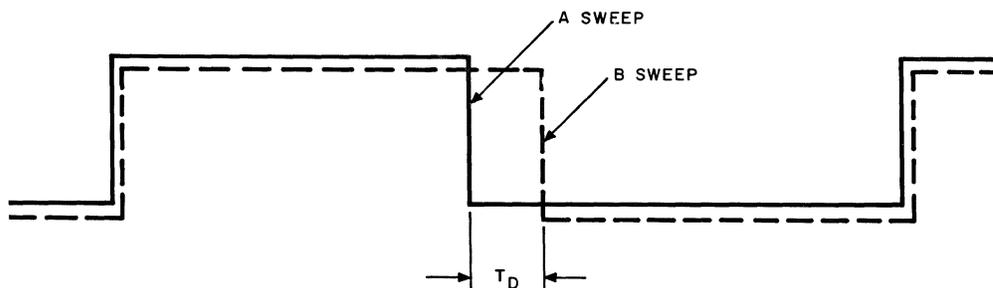
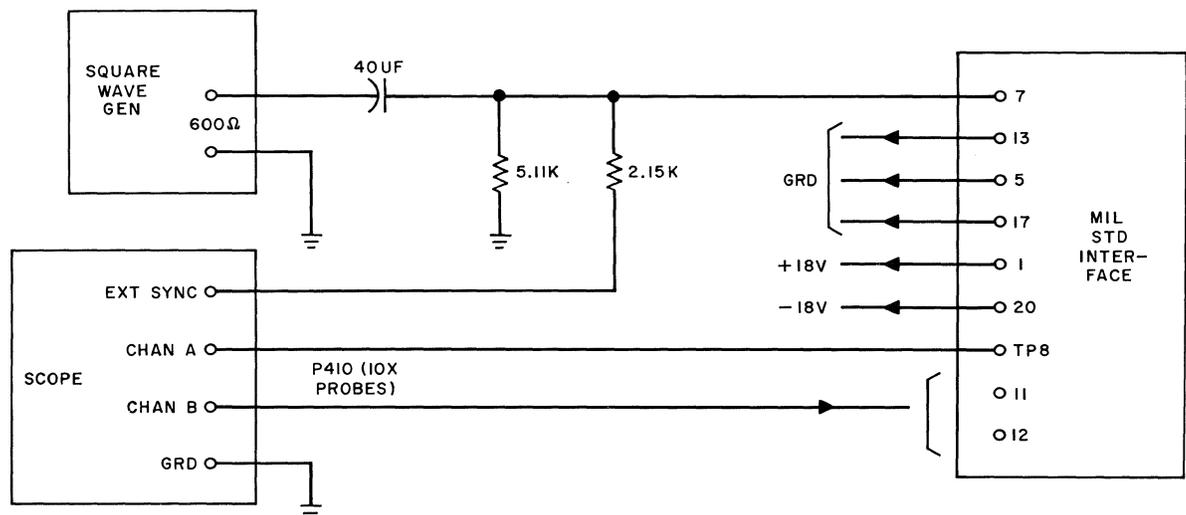

Fig. 52 — MIL. STD 188 Interface Test
Fig. 53 — MIL. STD 188 Interface Test
- (2) Set the controls on the oscillator so that the input sine wave to terminal 7 is about 1.5 volts rms with a period of 200 ( $\pm 10.0$ ) usec (5000 cps).
- (3) Make the following settings and connections on the scope.
- (4) Adjust the TIME BASE B STABILITY and TRIGGERING LEVEL controls to obtain a display of the waveform on test point 4. Overlay the CHAN A and CHAN B waveforms, as shown in Fig. 52, by adjusting the AMPLIFIER VERTICAL POSITION controls. The TRIGGERING LEVEL control should be set in a region where a slight counterclockwise or clockwise movement does not cause  $T_D$  to vary.
- (5) Adjust potentiometer R10 until the negative transition of the A sweep precedes the negative transition of the B sweep by approximately 20 usec.
- (6) Reduce the amplitude of input sine wave to 0.35 ( $\pm 0.01$ ) volt rms.
- (7) Rotate potentiometer R10 clockwise until the negative transition of the A sweep precedes the negative transition of the B sweep by approximately 4 usec (i.e.,  $T_D$  approximately 4 usec, see Fig. 52).
- (8) Set the HORIZONTAL DISPLAY selector to the B-INTENSIFIED-BY-A position. Set the TIME BASE A TIME/CM selector to 1 usec.
- (9) Adjust the delay time multiplier until the intensified portion of the sweep overlays the negative transitions of the displayed waveforms.
- (10) Rotate the HORIZONTAL DISPLAY selector to the A-DELAYED-BY-B position.
- (11) Rotate R10 clockwise until  $T_D$  is less than 0.5 usec. Because of backlash, it is important that the final setting be made in the clockwise direction. If  $T_D$  is made greater than 0.5 usec by excessive clockwise rotation of R10, back off in the counterclockwise direction until  $T_D$  is approximately equal to 10 usec, then reduce  $T_D$  to less 0.5 usec by rotating R10 in the clockwise direction.
- (12) Set the HORIZONTAL DISPLAY selector to the B position. Set the AMPLIFIER MODE switch to the A ONLY position. Reduce
- (1) Connect the card as in the suggested test circuit shown in Fig. 53.
- (2) Set the frequency of the square-wave generator to 5000 cps ( $\pm 5$  percent) with a duty cycle of 50 percent. Set the amplitude of the input pulse on terminal 7 (test point 8) to 12.0 ( $\pm 0.6$ ) volts dc.
- (3) The input pulse on the test point 8 should be as specified in Fig. 52.